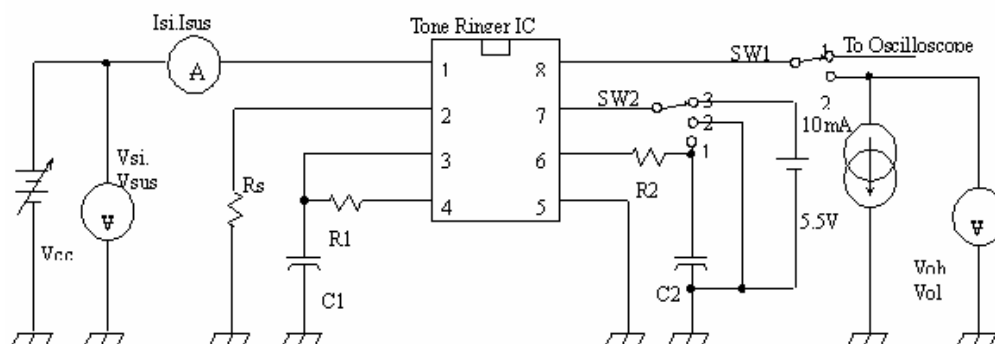
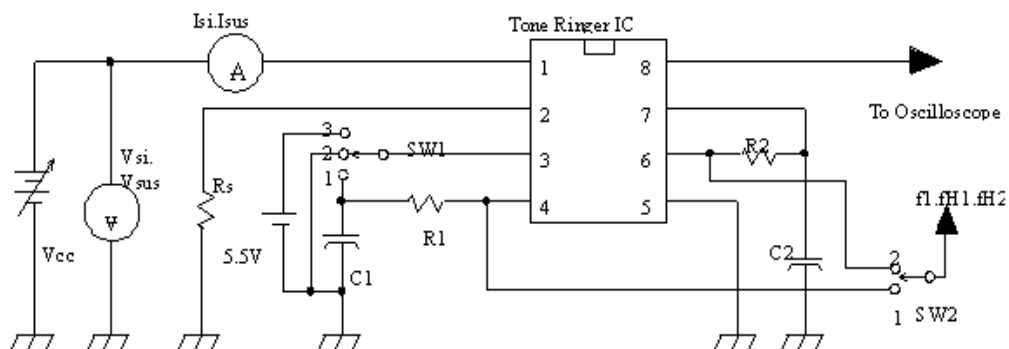

Figure 2. Test Circuit (1)
Figure 3. Test Circuit (2)
3. Ringing start voltage is the value of AC supply voltage required to start the tone ringer ringing in FIG.3
Pin 2 allows connection of an external resistor RSL, which is used to program the slope of the supply current vs supply voltage characteristics (see Fig2), and hence the supply current up to the initiation voltage ( VSI ). This initiation voltage remains constant independent of RSL.
The supply current drawn prior to triggering varies inversely with RSL, decreasing for increasing value of resistance. Thus, increasing the value of RSL will decrease the amount of AC ringing current required to trigger the device. As such, longer subscriber loops are possible since less voltage is dropped per unit length of loop wire due to the lower current level. RSL can also be used to compensated for smaller AC couplin capacitors (C5 on Fig 3) (higher impedance) to the line which can be used to alter the ringer equivalence number of a tone ringer circuit. The graph in Fig2 illustrates the variation of supply current with supply voltage. Three curves are drawn to show the variation of initiation current with RSL. Curve B( RSL=6.8KW) shows the I-V characteristic for the TS31002 tone ringer.